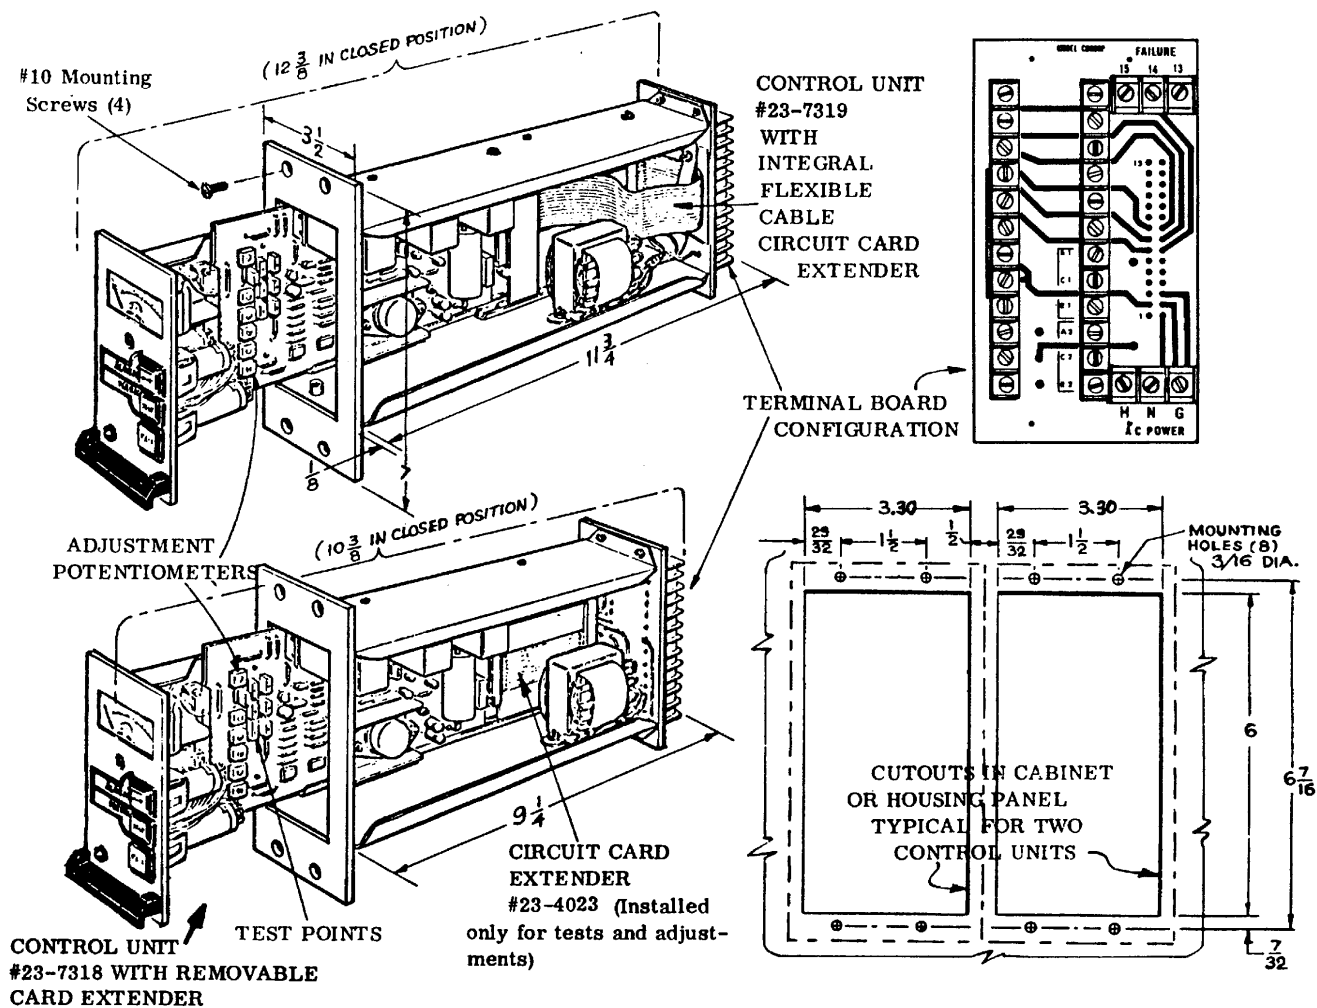

Figure 2-3. CD800P Control Unit Installation Data
- 2-4.1 **CD800P** (one control- module in metal case with rectangular front panel surrounding module front panel): Install in customer's instrument panel by means of four #10 mounting screws through case front panel (Figure 2-3). Cutout in panel to receive module should be 3.30 x 6 inches.